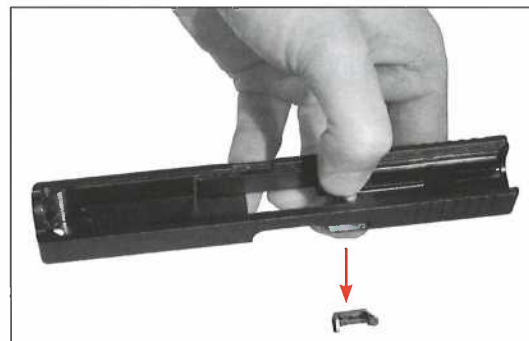

Fig. 30
- Orient the slide so that the extractor is facing downwards. Then, pressing inward on the firing pin safety with your finger or punch should release the extractor. You may need to push on the extractor if it doesn't fall freely. (Fig. 30)